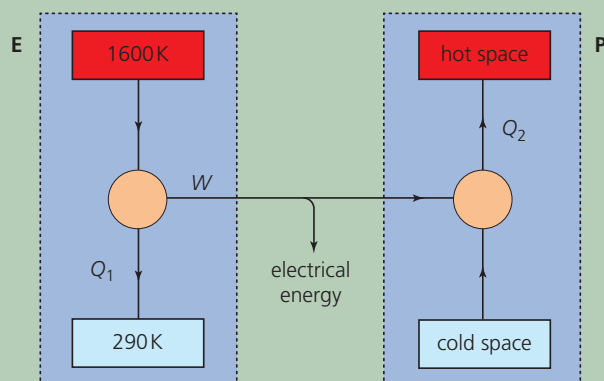

Figure Q2
- b. The box labelled E in Figure Q2 shows a diagram of a combined heat and power scheme. The scheme provides electrical energy W from an engine-driven generator and heat Q_1 for buildings situated near to the generator. Some of the electrical energy is used to drive the heat pump shown in the box labelled P. Output Q_2 is also used to heat the buildings.